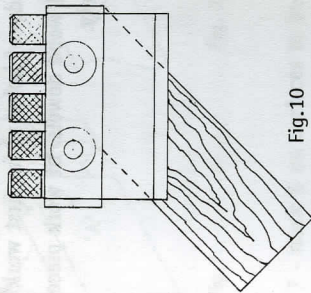

Fig. 10
2. Insert first work piece into device with surface X positioned to underside of drill guides, checked face to butt directly against reference plate, and checked edge (apex) to align flush with edge of reference block (see Fig. 10 below)